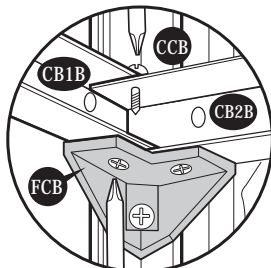

Fig. 1: Use (S1) screws. Fix (CB1B) to (FCB) and (CB2B).
20. Attach the center band (CB1B) to door column, corner column and center band (CB2B). See figures 1 and 2